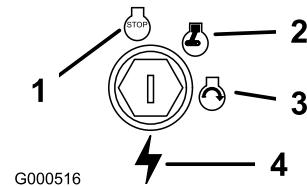

Figure 9
- Turn the ignition key to Off (Figure 9).